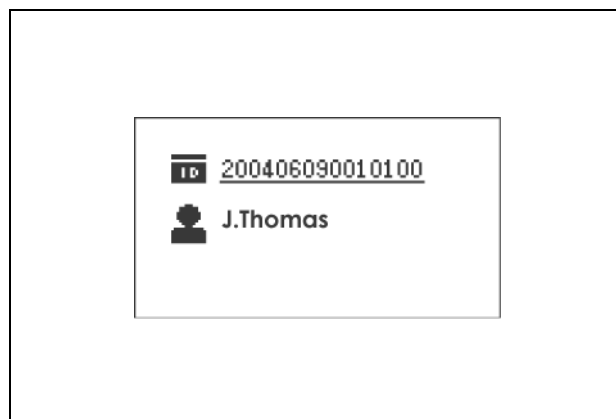

Figure 5.6
- If the recorder unit contains image data, the patient ID and patient name are displayed on the recorder unit's display panel (see Figure 5.6).